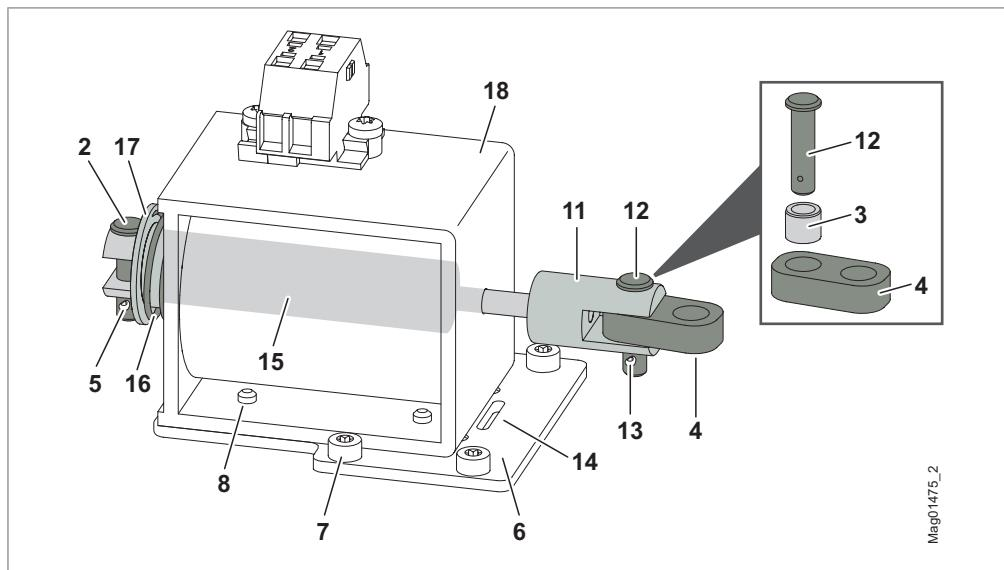

Fig. 72: Result: Magnet configuration "locked when de-energised"
17. Before the adhesive is hard, check and correct the distance between the locking lever and locking disc. Correct the distance by turning the armature (Fig. 72, pos. 15) in the magnetic fork (Fig. 72, pos. 11).